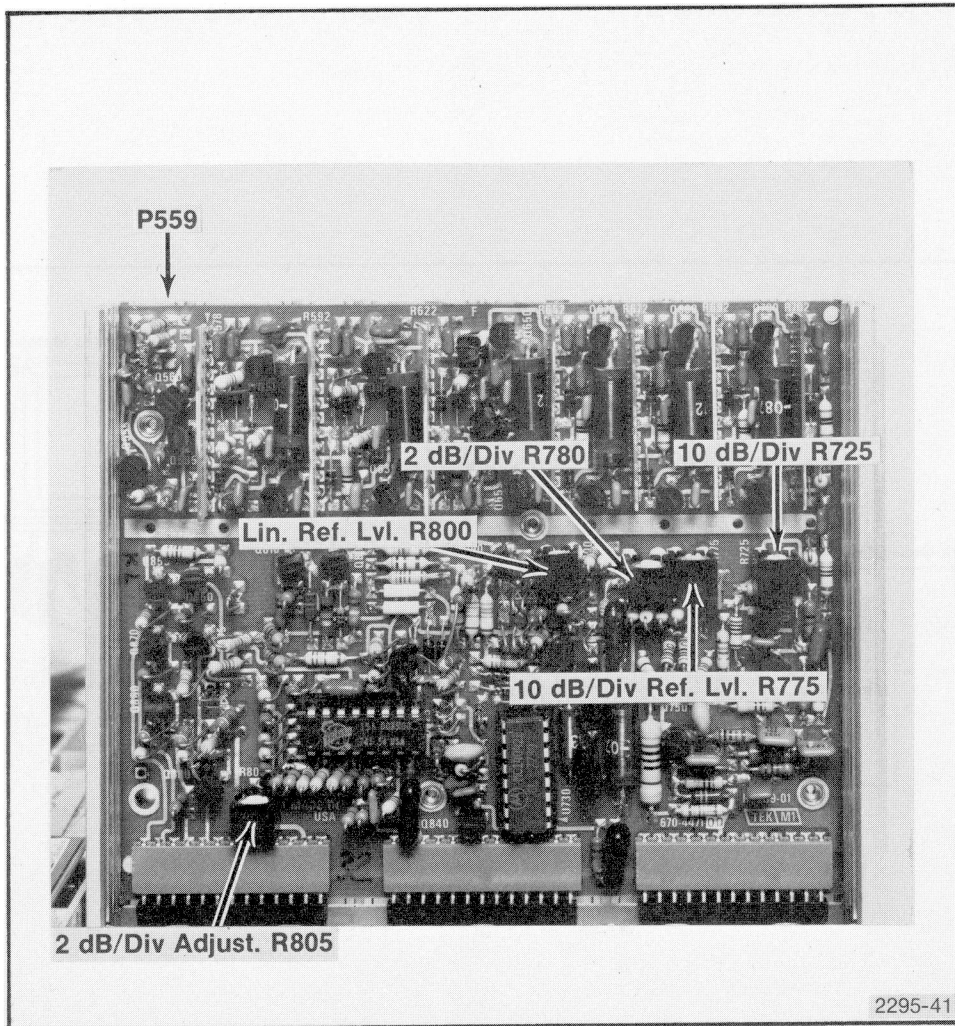

Fig. 4-33. Log and Video Amplifier Test Points and Adjustments.
g. Change the REFERENCE LEVEL 10 dB by switching to  $-20$  dBm and adjust 2 dB/Div, R805, (see Fig. 4-33) for five divisions of change.
i. Switch in 70 dB of attenuation in 10 dB steps and set 10 dB/div adjust, R725, (see Fig. 4-33) for the best 10 dB/div accuracy.
j. Return the step attenuators to 0 dB. Adjust 10 dB/div Reference Level R775 (see Fig. 4-33) for full screen signal.
k. Change the Display Mode to 2 dB/DIV. Adjust 2 dB/div Reference Level, R780, (see Fig. 4-33) for full screen signal.
l. Change the Display Mode to LIN. Adjust LIN Reference Level, R800, (see Fig. 4-33) for full screen signal.